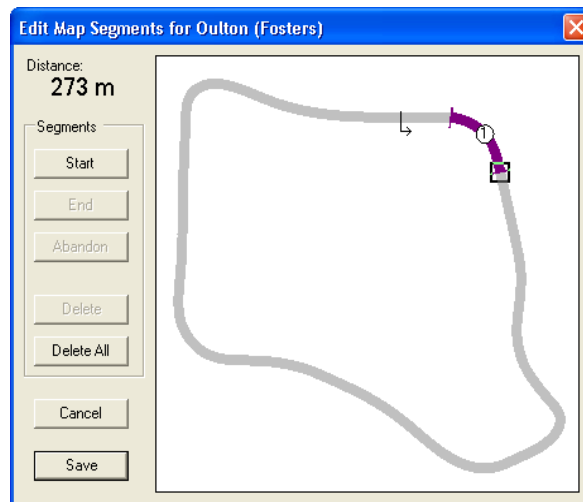

Figure 26 - Edit Map Segments Dialog (Segment Defined)
5. Mark the end point of the segment by clicking on the map and then clicking **End**. The portion of the map between the start and end points changes colour with small bars marking the extents of the segment (see Figure 26). Clicking **Abandon** before marking the end point of a segment allows the definition of the current segment to be cancelled.